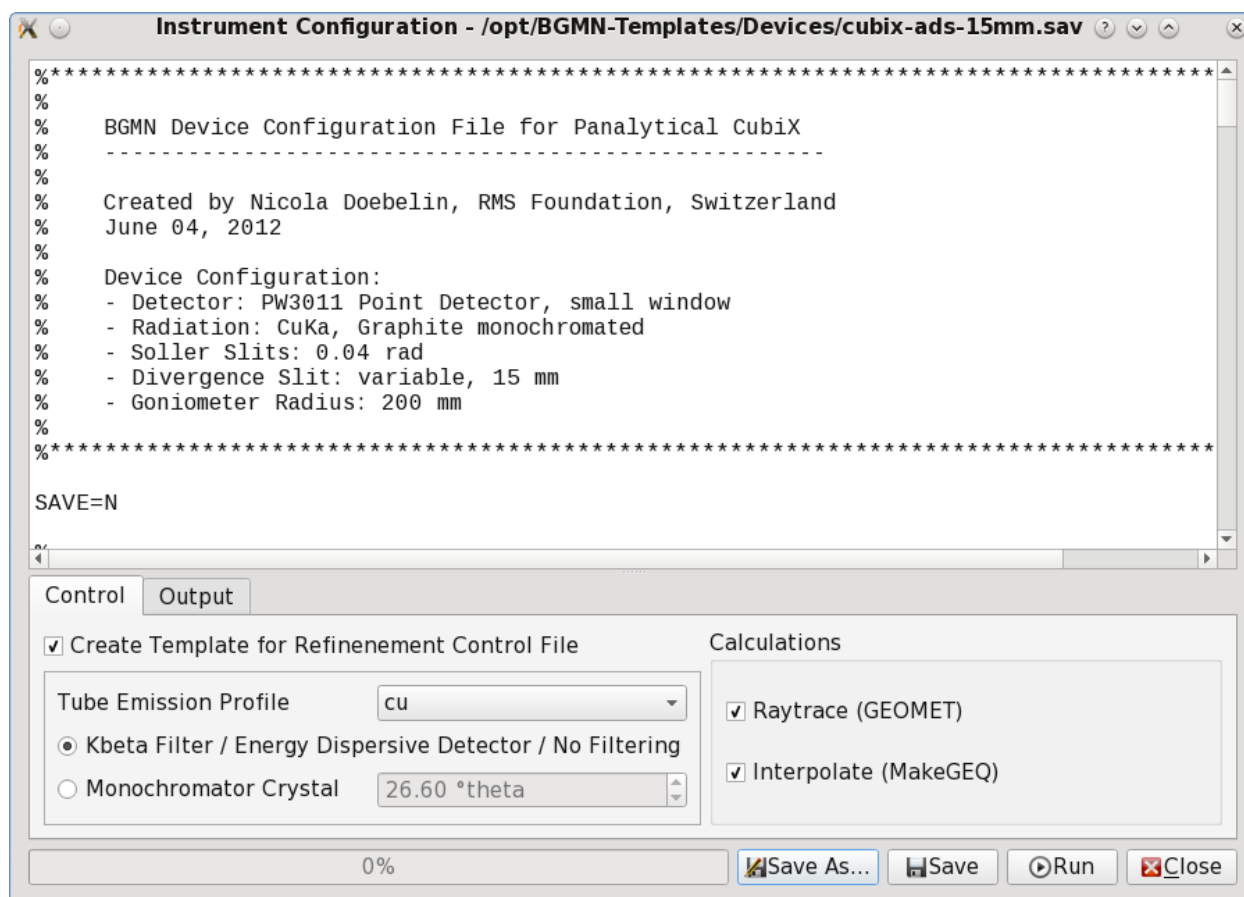

Figure 19: „Instrument → Edit Configuration...” opens a dialog to edit an existing instrument configuration.
2. The instrument dialog shown in Fig. 19 will be shown. Edit the file as intended.